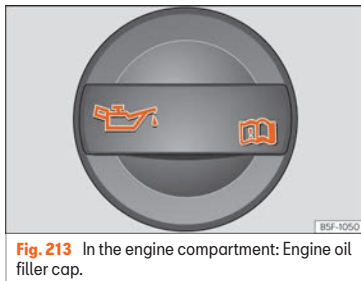

Fig. 213 In the engine compartment: Engine oil filler cap.
- Unscrew cap from engine oil filler opening »» **Fig. 213**.